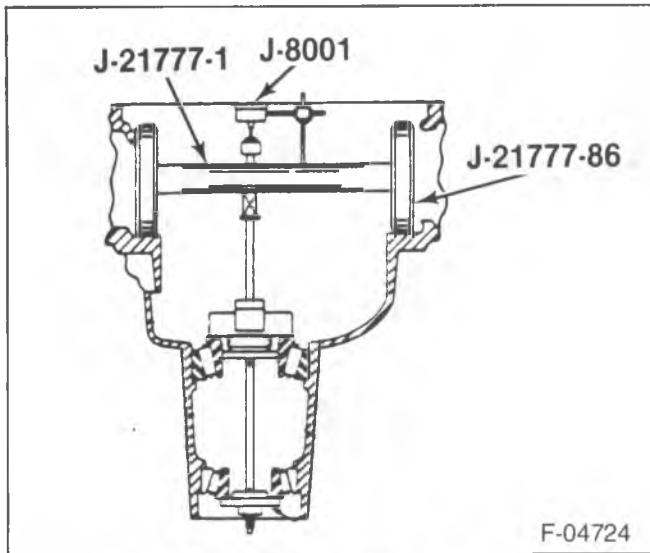

Figure 12—Pinion Depth Tools
- 8. Assemble J 21777-86, J 21777-1 Arbor, and J 8001 to the differential bearing bore as shown in figure 12.